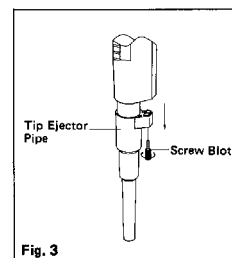

Fig. 3
It is recommended that the following servicing procedures be performed at regular intervals. Heavy usage or usage with corrosive fluids will require more frequent servicing. Disassembly (Reference Figure 3 & 4)
6. After the above maintenance procedure, should the feeling of a smooth piston stroke seem different than prior to the servicing, immediately disassemble the pipette as in the above procedure and reassemble per the schematics in Figures 3 and 4.